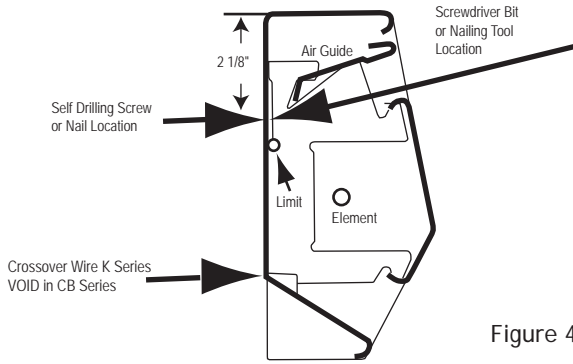

Figure 4
10. When mounting heater, (see Figure 4), make sure screws do not damage crossover wiring or the safety limit in the heater.
11. Do not remove or bypass the safety limit control as this could allow heater to become a fire hazard - see Figure 4.
4. Position heater at desired location and attach to wall using good screws or appropriate hardware. Locate studs and drive screws into studs where possible. For heaters up to 6 feet (1.8 m) in length, one screw at each end is adequate. For longer units, an additional screw in center is required. Tighten screws and then loosen screws at least 1/4 turn to allow heater to expand and contract during use. If unit is mounted above floor, two additional mounting holes are provided at each end below the heating element (see Figure 4). Install an additional screw at each end for stability making sure to loosen each screw at least 1/4 turn.
The CB Series baseboard heater has the return wire within the element and the wireway is empty, (see Figure 4). If your power supply is on the right side you will need to cut the loop to apply your power. If the power supply is on the left, cut one connector to apply power supply similar to diagram in Figure 5.
5. A safety limit control is provided to turn off the heater automatically if it is blocked or otherwise overheats due to an abnormal condition-see Figures 4 and 5. DO NOT bypass or remove this safety device from the electrical circuit-see Warning 11 on page 2. During normal use, this safety control should not operate. If you find that this control is operating, make sure the heater is not being blocked. If it continues to cycle the heater off, disconnect power to heater and have it checked and repaired by a qualified electrician.